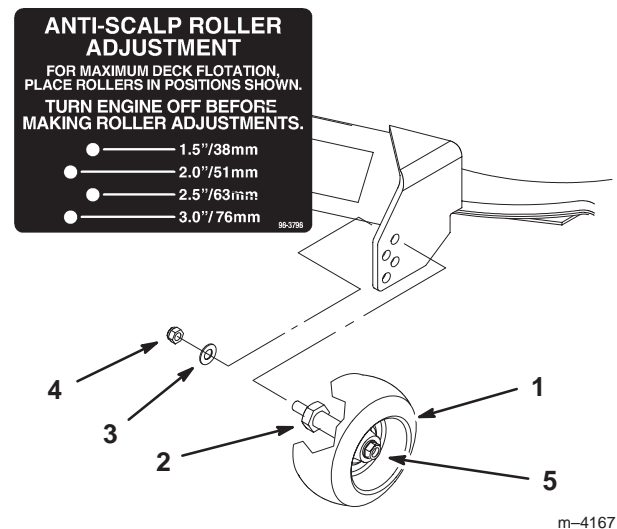

Figure 18
3. After adjusting the height-of-cut, remove the nut and washer while holding the stud with a wrench (Fig. 18).
Note: Do not remove the wheel nut and washer (Fig. 18).
4. Select a hole so that the outer roller is positioned to the nearest corresponding height-of-cut desired (Fig. 18).
5. Install the stud nut and washer (Fig. 18).